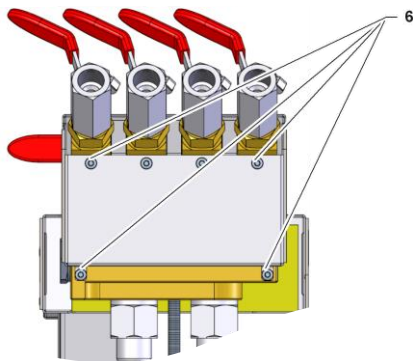

Fig. 4: Flow-5 view from below
- Disassemble screws (Label 6 → Fig. 4) and remove cover.